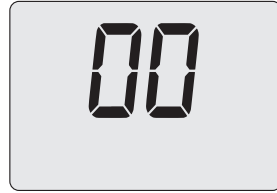

Figure 5.33
- Press 17 (Figure 5.30) to show the value of parameter P07 on the LCD display (Figure 5.33).